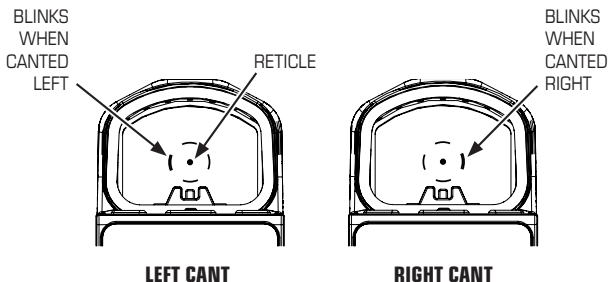

Figure 3.5-1 RAAM GSS Reticle Display
- Step 2.)** Turn the Mode Selection Knob to the Red Dot (RD) mode position. Push the Left and Right Buttons on the ***RAAM GSS*** to adjust your Red Dot Sight brightness.
Step 5.) Verify that the weapon is level to the horizon (not canted) by checking for cant indication. If the **RAAM GSS** is not level, cant indicators will appear as in Figure 3.5-1. Tilt the weapon in the direction the cant indicator arrows point to correct cant.
Additionally, the left and right arc segments of the Red Dot Sight provide cant awareness by flashing when canted as in Figure 3.5-1. The IR Aiming Laser will blink slowly when canted to the left, or quickly when canted to the right.
Step 7.) Verify that the weapon is level to the horizon (not canted) by checking for cant indication. If the ***RAAM GSS*** is not level, cant indicators will appear (see Figure 3.5-1). Tilt the weapon in the direction the cant indicator arrows point to correct cant.